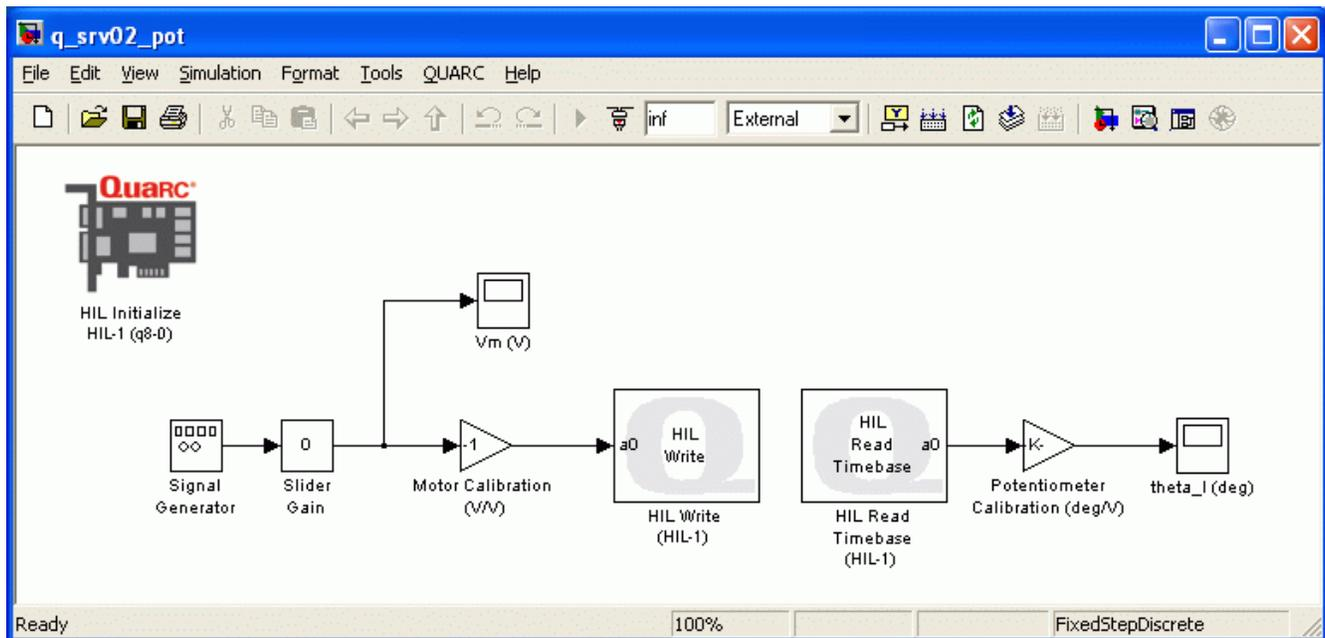
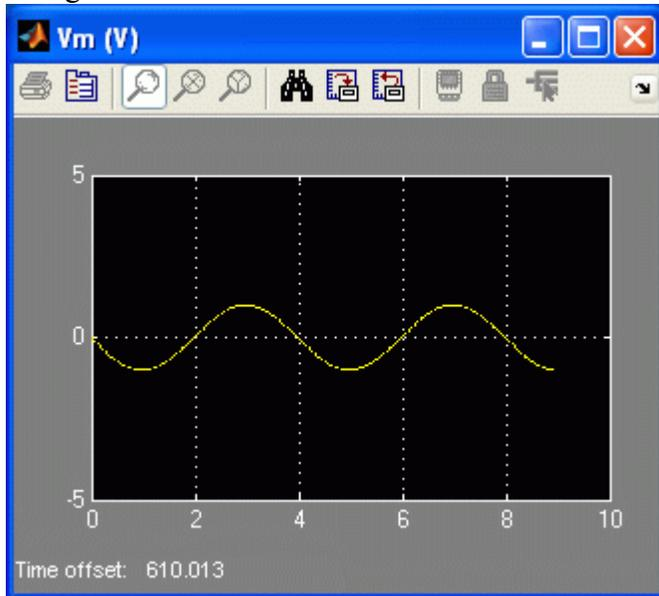

Figure 6: Simulink model used to send voltage to the SRV02 and obtain angular readings from the potentiometer.
Figure 7: Sinusoidal SRV02 input voltage.
The Simulink model will now be modified to read the load angle from the potentiometer and the voltage commanded to the motor, similarly as shown in Figure 6.
2. Add a Scope block from the *Simulink \ Sinks* folder in the Library Browser and connect it to the output of the Slider Gain block, as shown in Figure 6, above. Label the Scope block V_m (V) which stands for the input motor voltage.
4. Connect the Gain blocks as illustrated in Figure 6. Place one Gain block between the *Amplifier Pre-Compensation Gain* and the HIL Write Analog blocks and label it *Motor Calibration (V/V)*. Add the second Gain block between the HIL Read Timebase and θ_{1} Scope blocks and denote it *Potentiometer Calibration (deg/V)*.
7. Open the V_m (V) and θ_1 (deg) scopes.
9. Set the Slider Gain block to 1. The input voltage signal in the V_m (V) scope should be as shown in Figure 7.